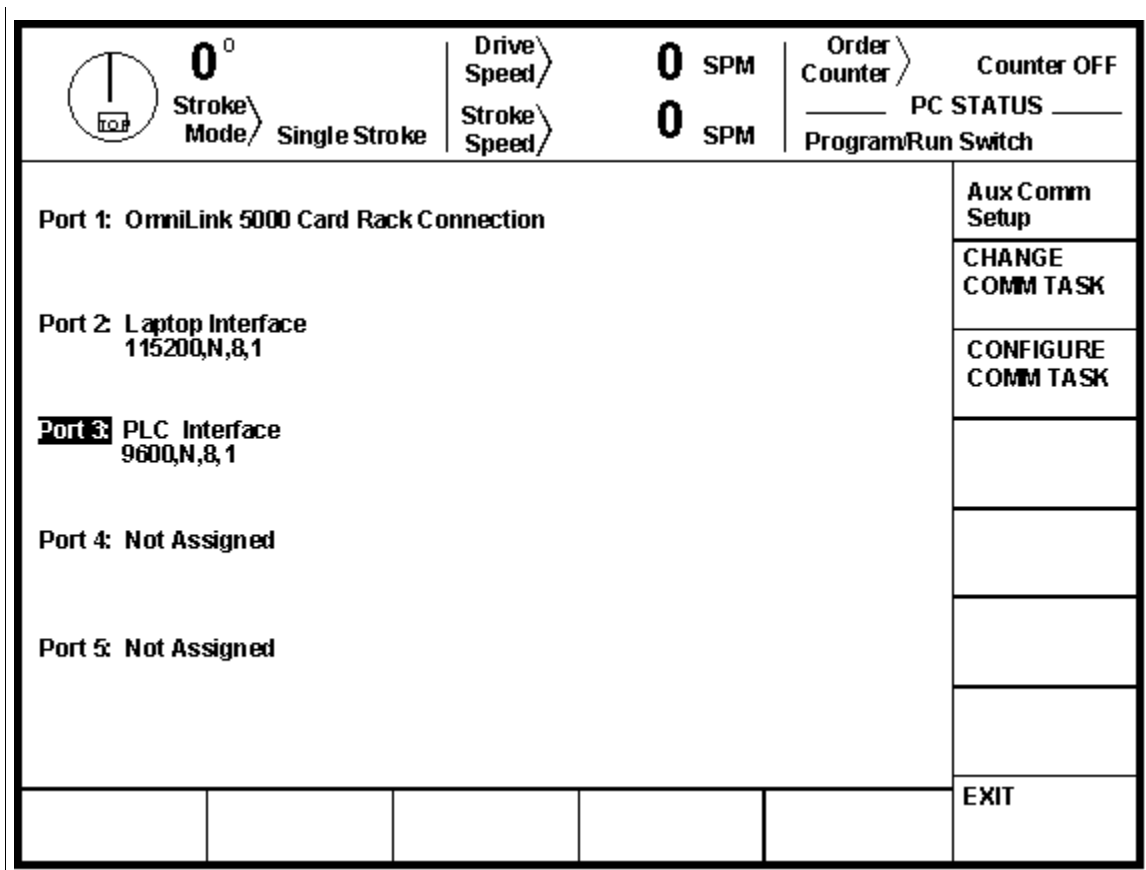

Figure 3.1: Example Auxiliary Communications Setup Screen
- d) The screen should now look similar to that of Figure 3.1 (there may differences depending on the particular options enabled on each control).
- e) There are five ports that can be configured for various functions such as laptop interface, network interface, feed interface, and so on. On the OmniLink 5000, port 1 is fixed for use by the system. Ports 2 through 5 can be configured by the user according to need. To change the function of a port, move the cursor to the port and hit the “CHANGE COMM TASK” softkey. This key will cycle through the available functions of the port. Note that most functions can only be selected on one port at a time. Place the cursor on the port the PLC Interface should run on (Port 3 in the example of Figure 3.1) and hit the “CHANGE COMM TASK” softkey until “PLC Interface” appears. If it does